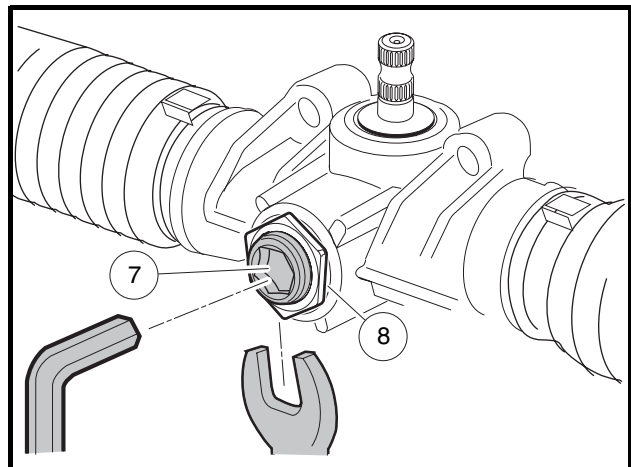

Figure 7-18 Rack and Pinion Adjustment
9. Place a few drops of Loctite 222 on the threads of the screw (7) (**Figure 7-18, Page 7-9**).
13. If the measured resistance is not 7 to 15 in-lb (0.8 to 1.7 N·m), adjust the screw (7) until the setting is correct. Tighten the nut (8) to 28 ft-lb (38 N·m) (**Figure 7-18, Page 7-9**). **See following NOTE.**
NOTE: When the nut (8) is tightened, make sure the screw (7) adjustment does not change (**Figure 7-18, Page 7-9**).